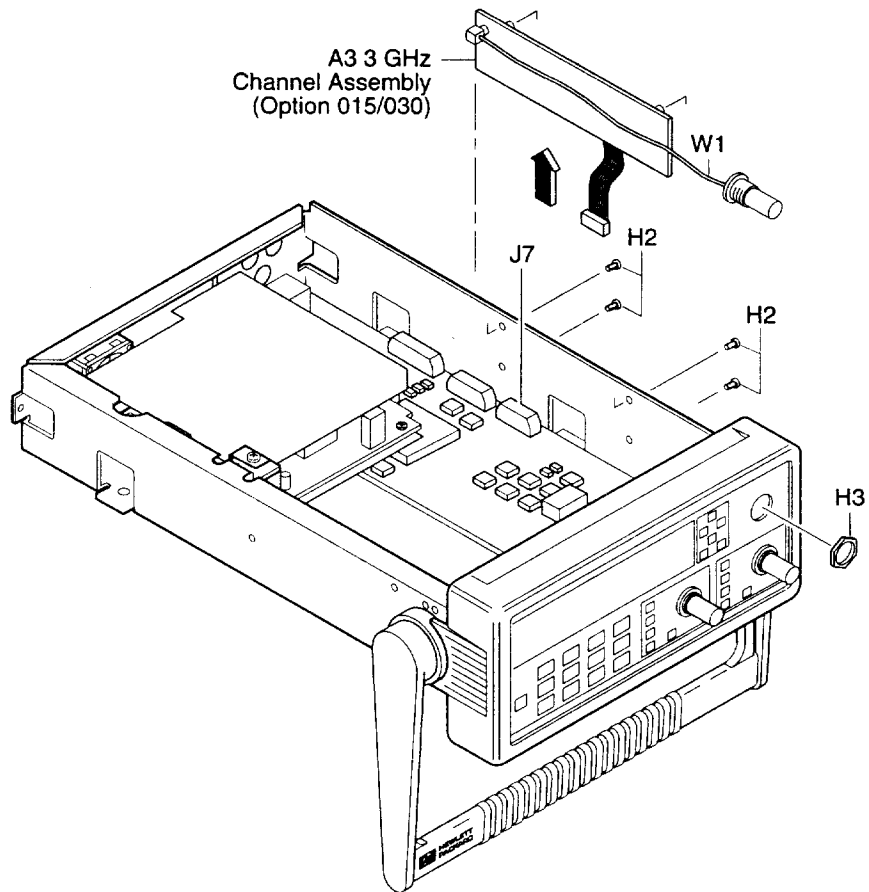

Figure 3-8. Option 030 3.0 GHz Channel Input Assembly Removal
3 Pull W1, which is the optional channel assembly cable, out of the Channel 3 (or 2) opening in the front panel assembly as shown in Figure 3-8.
- 4 Disconnect flat-ribbon cable of the optional channel from connector J7 of A1 Motherboard Assembly as shown in Figure 3-8.**
- 5 Remove the four screws (H2) attaching the optional channel to the chassis as shown in Figure 3-8.**